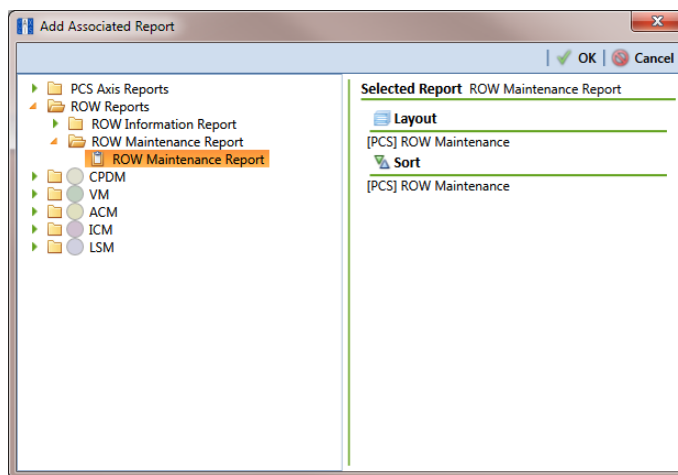

Figure 11-9. Add Associated Report
- a** Click  **Add Associated Report** to open the *Add Associated Report* window (Figure 11-9, page 462).
For example, double-clicking  **ROW Reports** >  **ROW Maintenance Report** displays a list of reports available for selection (Figure 11-9, page 462).
- c Select a report in the list to move it to the *Selected Report* panel and then click  **OK** (Figure 11-9).